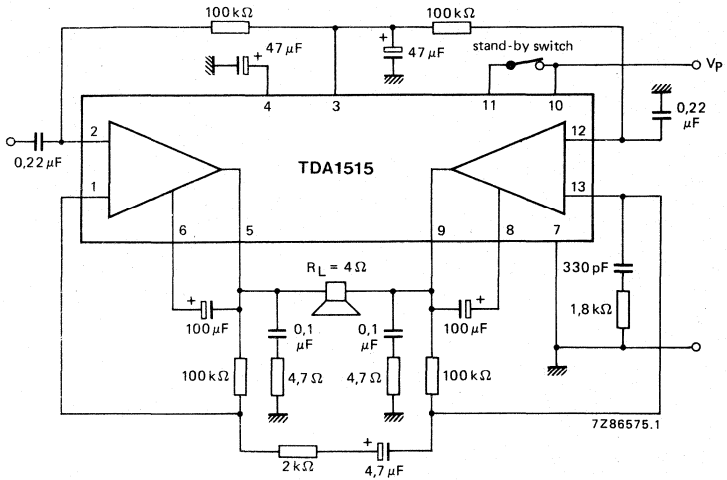

Fig. 3 Test/application circuit bridge tied load (BTL).
4. The input impedance in the test circuit (Fig. 3) is typ. 100 k $\Omega$ .